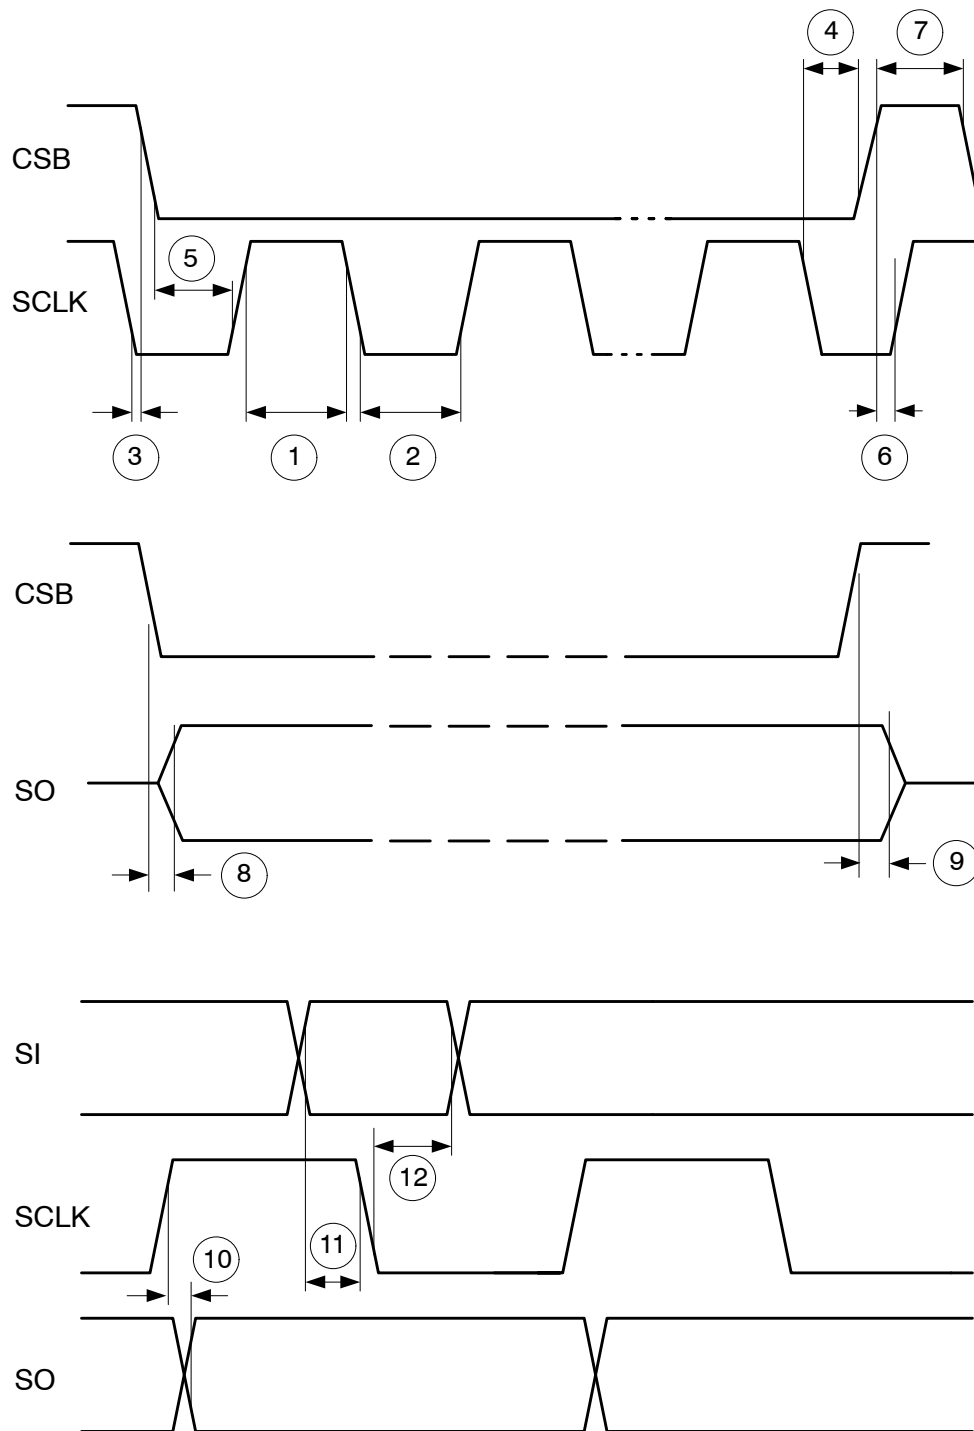

Figure 5. Detailed SPI Timing
3. CSB setup time (T_{csbSup} : Figure 5, #5) is satisfied.